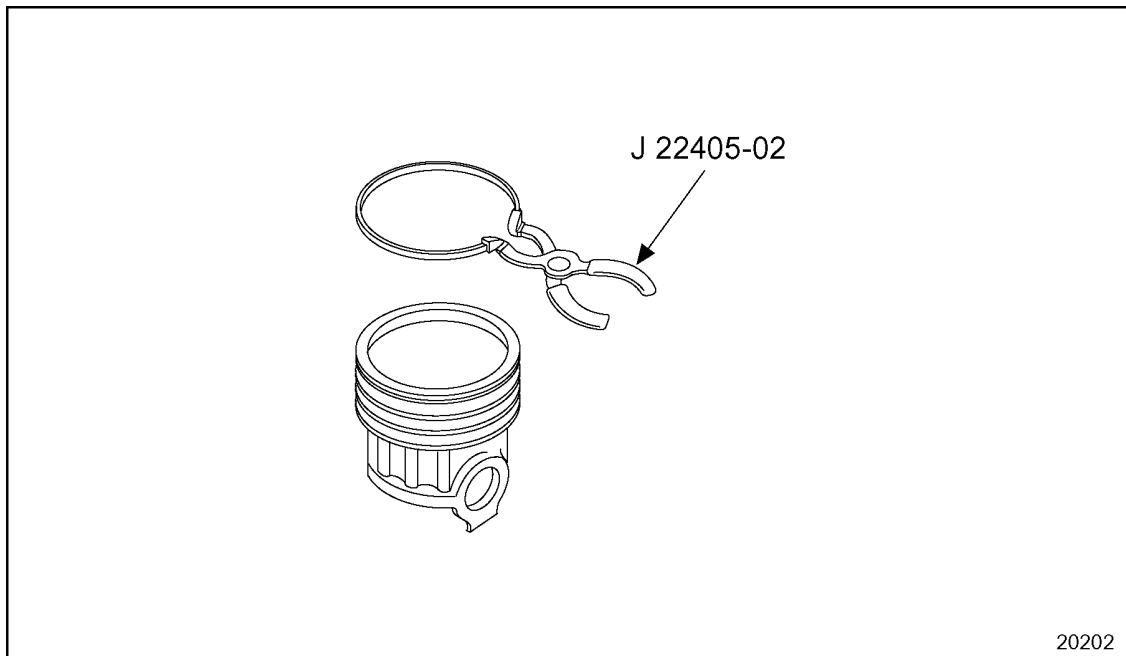

Figure 1-232 Removing Piston Rings
1. Remove the piston rings with tool J 22405-02. See Figure 1-232.